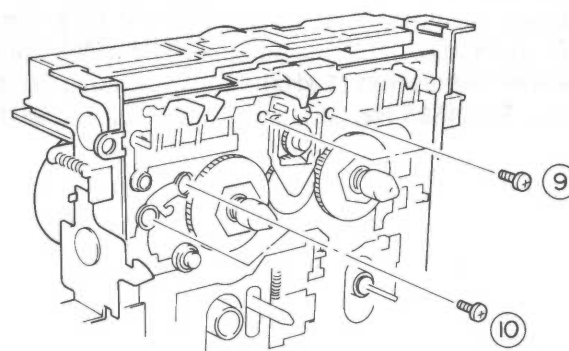

Fig. 7
- Remove 2 screws (⑨) in fig. 7 and then remove the reel motor.
- Remove 2 screws (⑩) in fig. 7 and then remove the capstan motor.